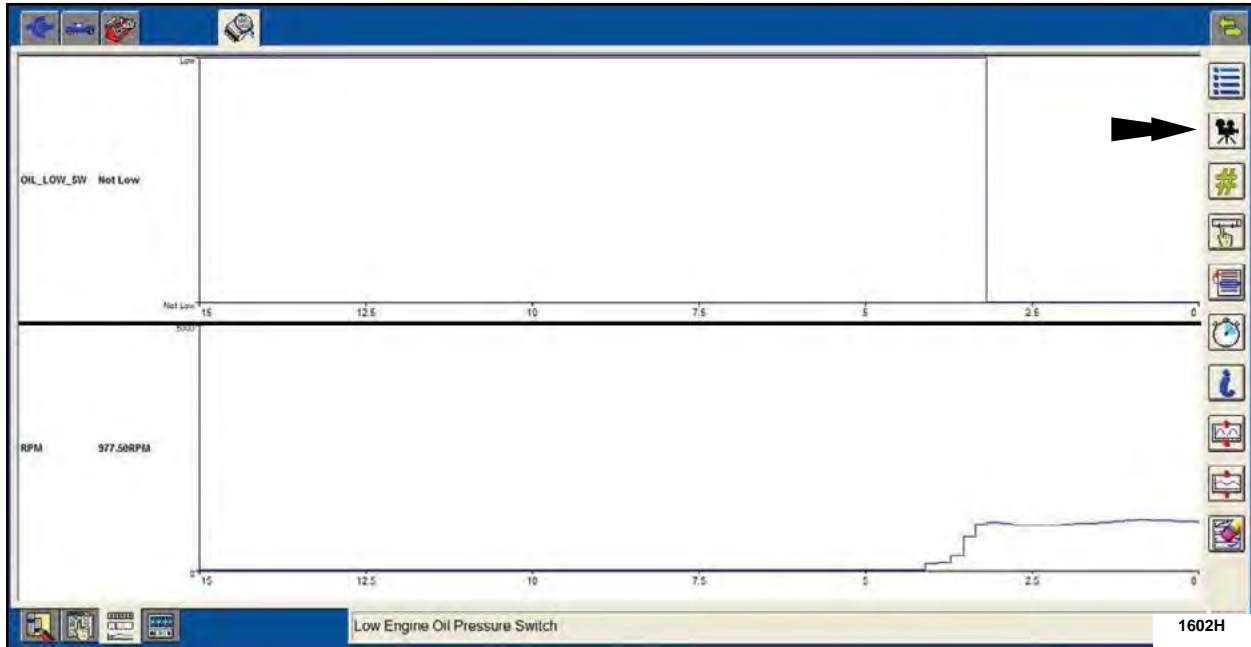

FIGURE 7
- Once both PIDs are displayed in graph form, start the engine and monitor the OIL_LOW_SW (MODE) PID and the RPM (RPM) PID. Press the data capture button, to record the OIL_LOW_SW PID switching from "Low" to "Not Low". See Figure 7.